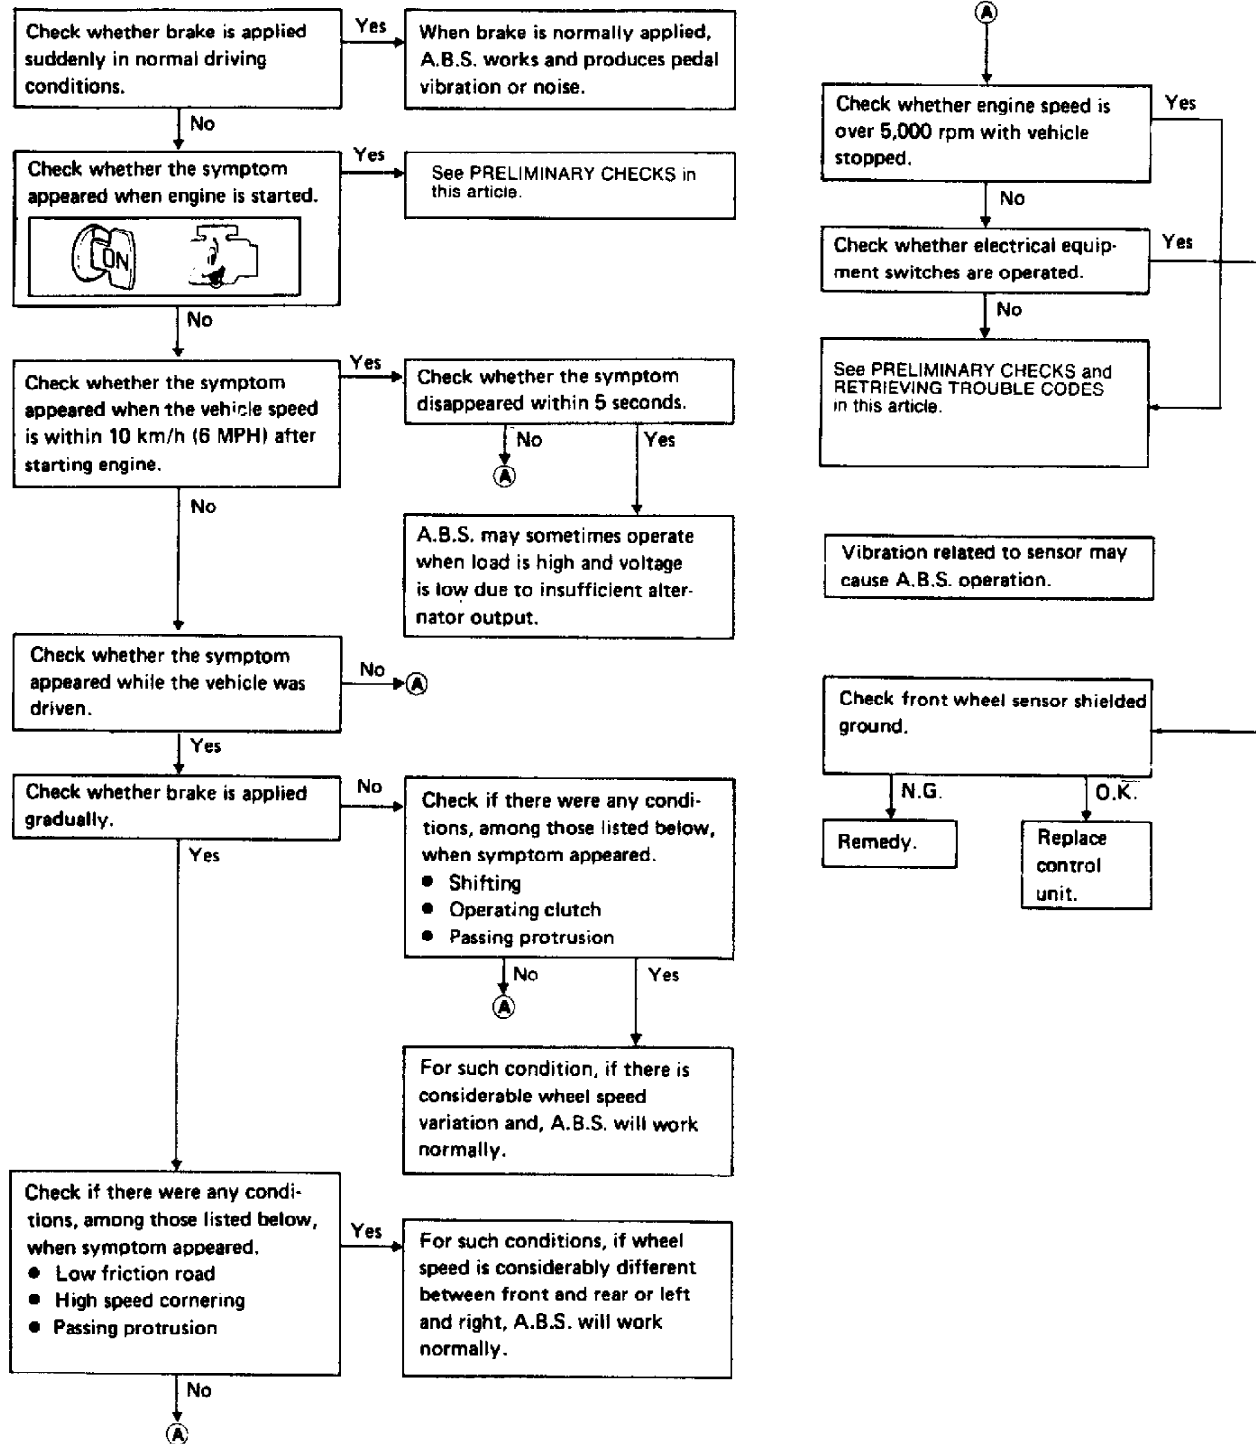

Fig. 8: No Code - Pedal Vibration & Noise Troubleshooting Chart
- Pedal Vibration & Noise - See Fig. 8.